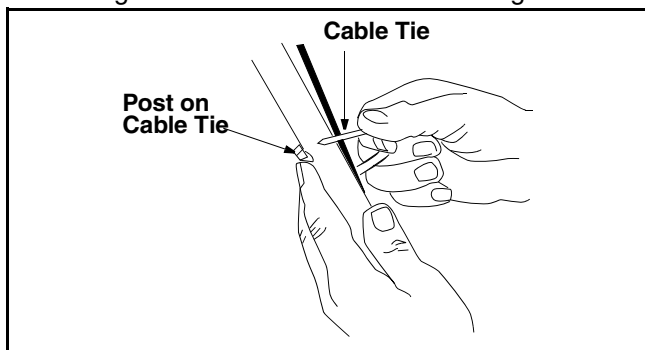

Figure 4
- Fasten the cable to the lower handle with the two cable ties found on the lower handle. Pull the cable ties tight and trim off the excess. See Figure 4 .